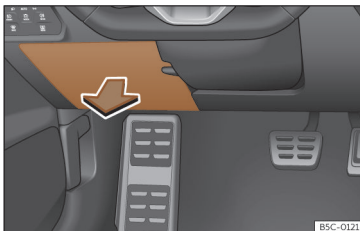

Fig. 48 On the driver's side dashboard: fuse box cover.
- *Open*: fold the cover down»» **Fig. 48**.